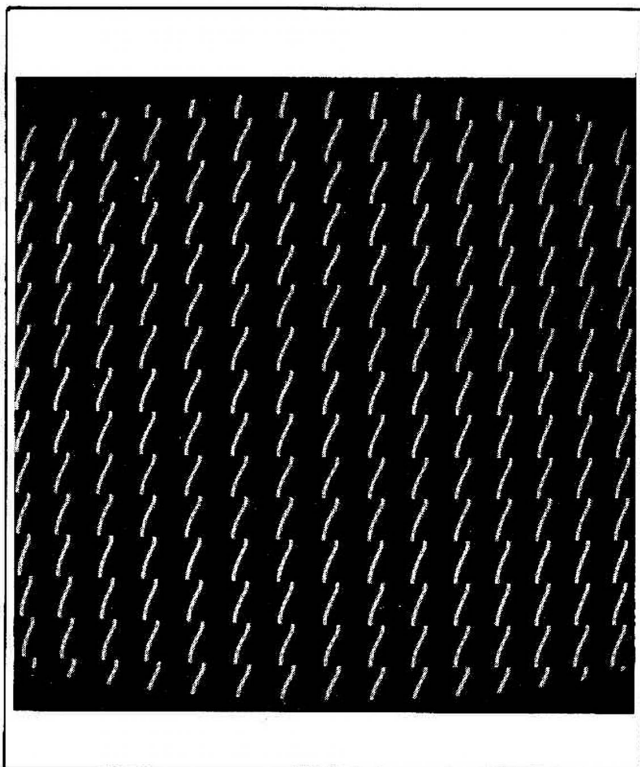
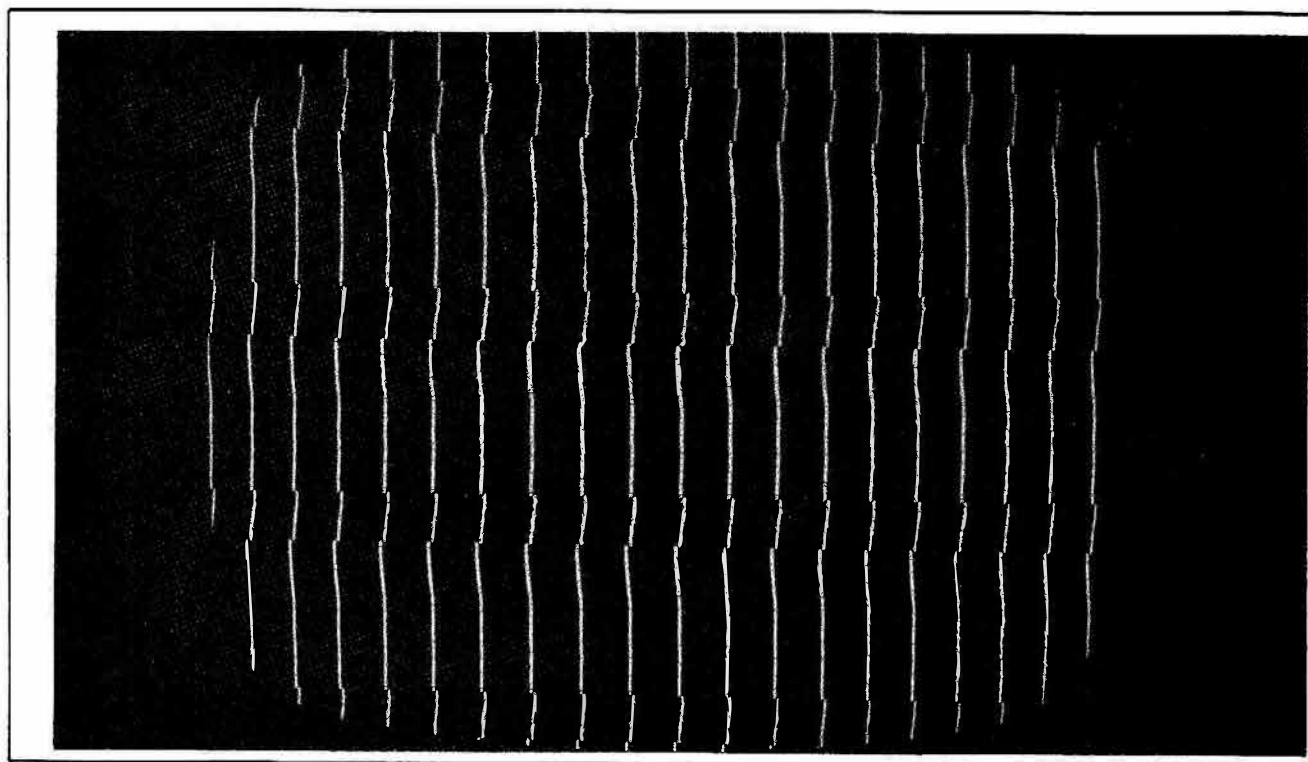

**Figure HWP-3A. Scallops in Bar Pattern;**
**Figure HWP-4A. Jogs in Bar Pattern
Errors in the vacuum guide position are determined by using an RCA Alignment Tape (MI-40771-B) which is recorded under optimum conditions. Playback of this tape under conditions other than optimum will show up as time displacements in the reproduced picture. These visible deviations can be separated into three basic errors: (1) errors perpendicular to the headwheel panel called "scallops" (refer to figure HWP-3A); (2) errors in pressure called "jogs" (refer to figure HWP-4A); (3) errors in time delay called quadrature errors (refer to figure HWP-5). Combinations of these three errors usually occur.